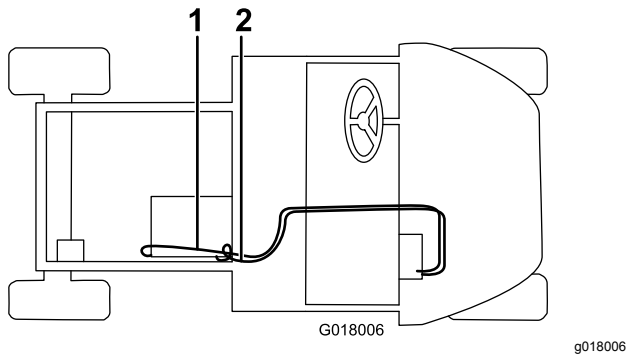

Figure 28
- Connect the long hose to the heater valve with a hose clamp, and route it through the hole in the seat base, the hole in the bed frame, and to the straight fitting with a hose clamp (Figure 28). Cut any excess hose to fit.
- Connect the shorter hose to the white fill tee with a hose clamp, route it through the R-clamp on the glove box, through the hole in the seat base, and connect it to the tee fitting in the lower radiator hose with a hose clamp (Figure 28). Cut any excess hose to fit.